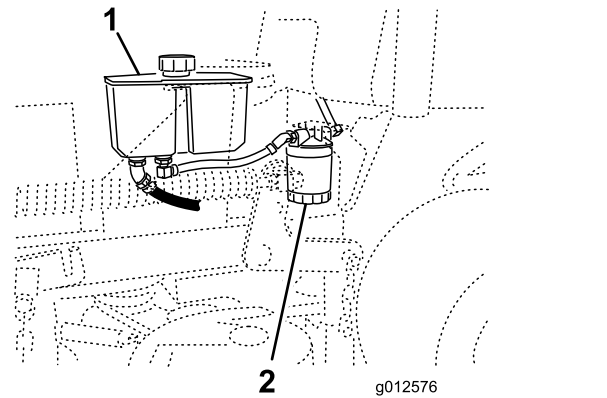

Figure 73
3. Locate the filter and place a drain pan under the filter (Figure 73).